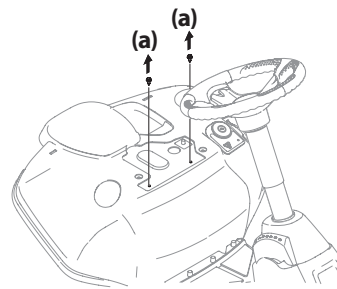

Figure 5
2. Remove the two self-tapping bolts (a) factory installed on the tractor. See Figure 5.